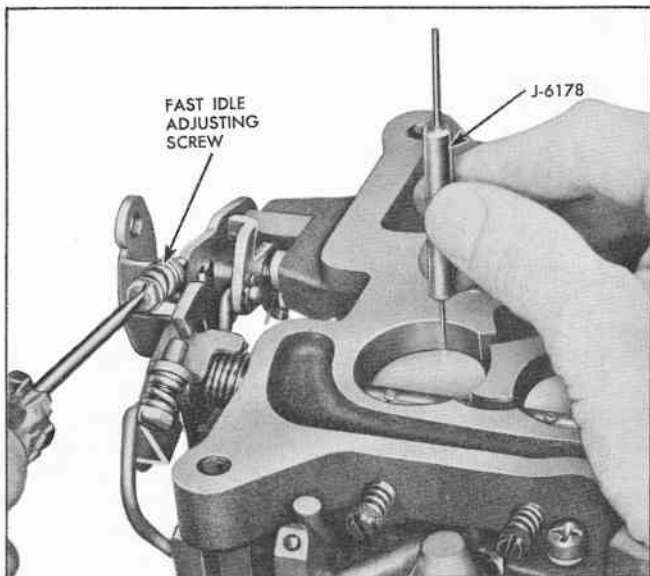

Fig. 28 Checking Fast Idle Adjustment
1. With choke valve fully closed there should be .033" clearance (J-6178) between primary throttle valve and wall of throttle flange opposite the idle adjusting needles (Fig. 28).